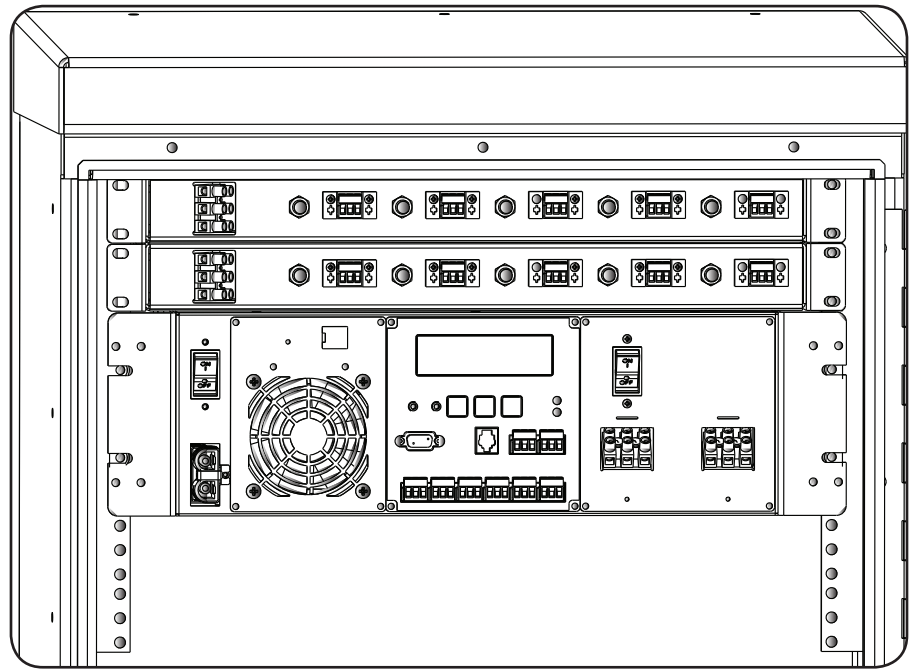

Figure 6.14 - UPS Module (installed)
2. Align the mounting ear holes of the UPS module in front of the mounting rail holes. (See Figure 6.14)